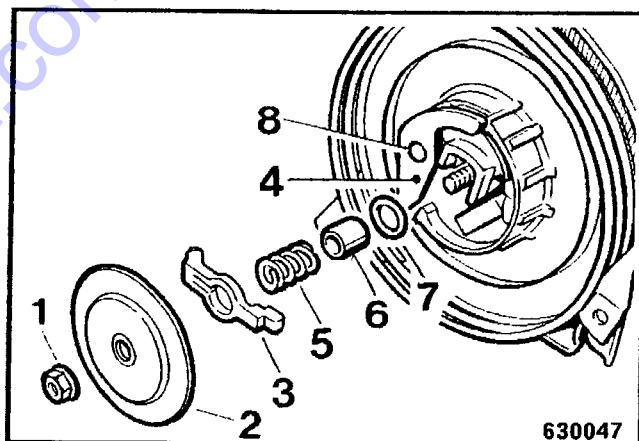

Fig. 7
- Install the pin 8 (Fig. 7), the latch (4), the tube (6), the plastic washer (7) and the pressure spring (5).
- Install the tappet (3).
- Attach the disc (2) and tighten it with the hexagon nut (1).
- Check the function of the starter; the latch (4) must be in end position when the starter rope is pulled tight.